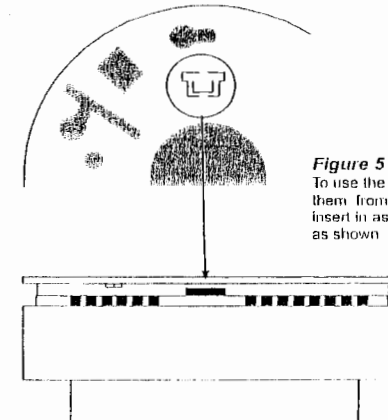

Figure 5 - Fitting tamperproof tabs
- If the detector is to be locked into position the two tamperproof tabs need to be removed from the base plate. Retain until final assembly of detector. See Figure 5
- Fit the two tamperproof tabs inserting in the positions provided between the base plate and detector unit. Once fitted the detector can only be removed from the base plate by first removing these tabs by gently prying out with a screw driver. See figure 5